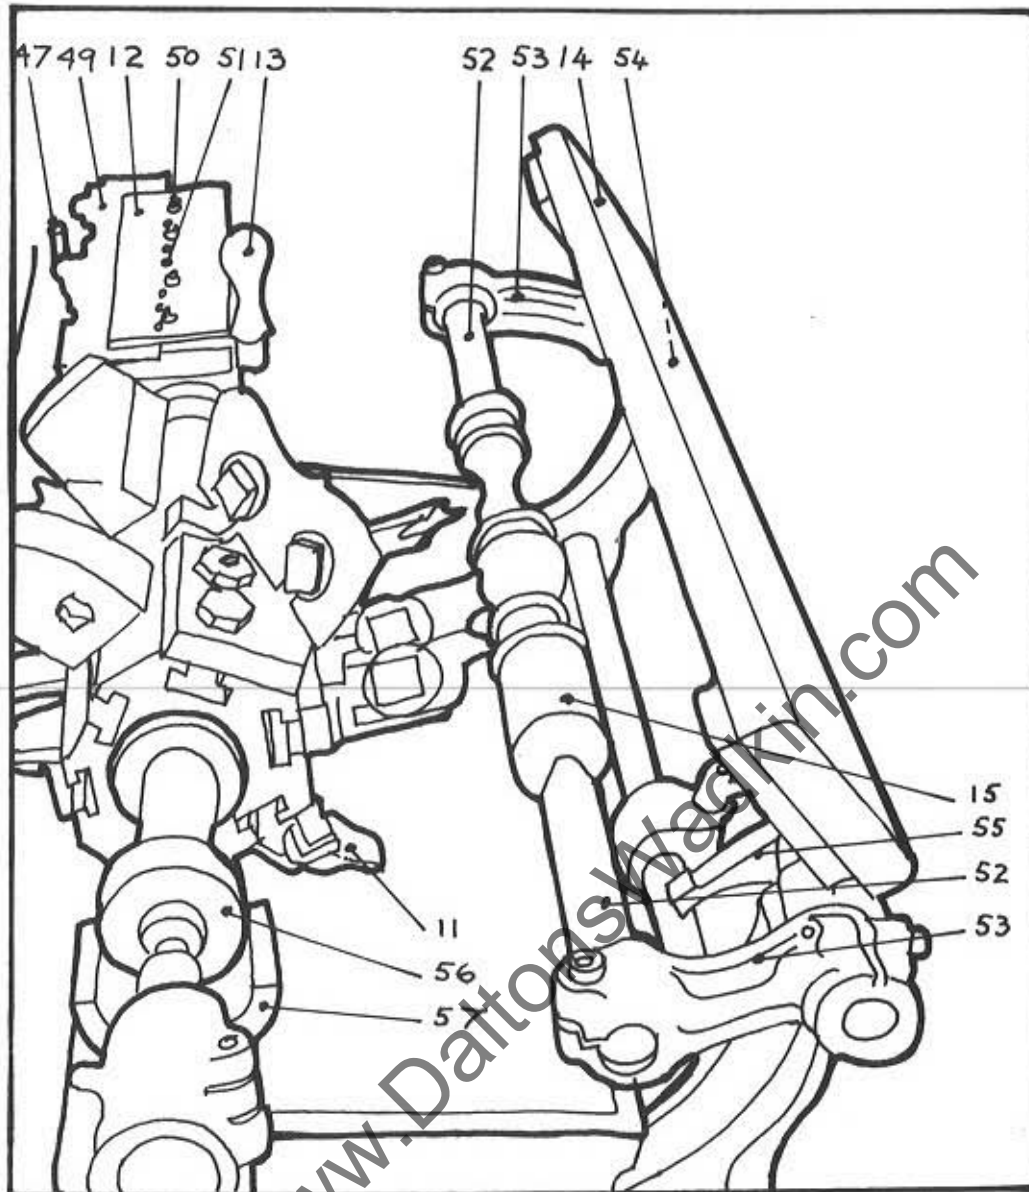

FIG. 21 Sample turning fixture
Fit a plain stylus. Fit the corresponding template (49) and adjust it, whilst keeping it back against the fence pegs (51) Fig 21, so that the disc end line on the template correctly aligns with the stylus, using a square, Fig. 18.
#### FITTING AND USING A SAMPLE TURNING (Fig.21)
Use adjusting handwheel (16) see Fig 21, for final fine setting of cutterhead to pattern.